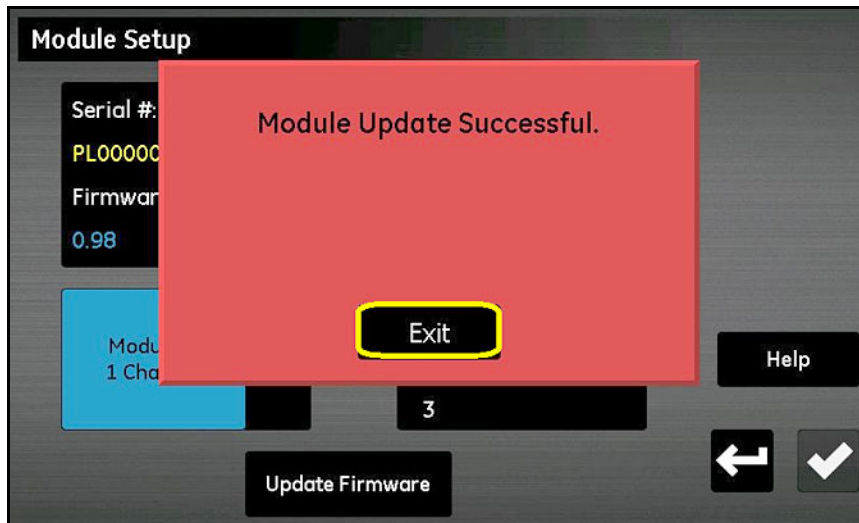

Figure 98: Installation Successful
7. After the update is complete (see Figure 98 below), the meter prompts you to exit. Tap the **Exit** button.